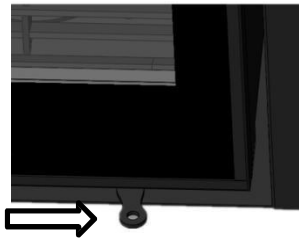

Fig. 5. Fully Open Position
- To fully open the secondary air, slide the control knob to the right, as far as it will go (see figure 5).